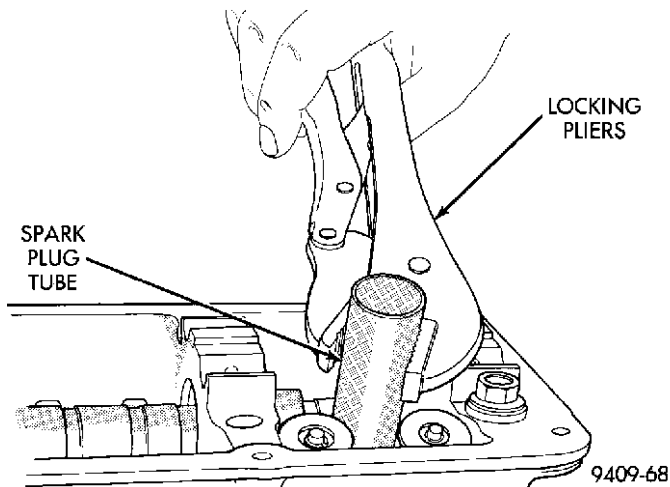

Fig. 21 Servicing Spark Plug Tubes
- (1) Remove valve cover. Refer to procedure outlined in this section.
- (2) Using locking pliers remove the tube from the cylinder head (Fig. 21). Discard old tube.